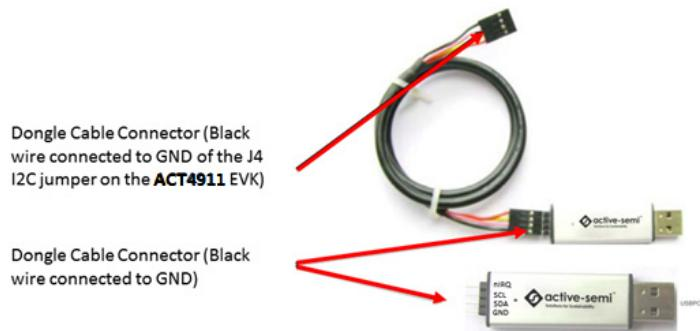

Figure 3 – USB-TO-I2C Dongle Connection
3. Connect the USB-TO-I2C dongle to the EVK J4 connector. Refer to Figure 3 to ensure the correct polarity of the connection. As a guide, use the "Active-Semi" logo on the top of the dongle so the black wire is connected toward the lower left corner of the Dongle.